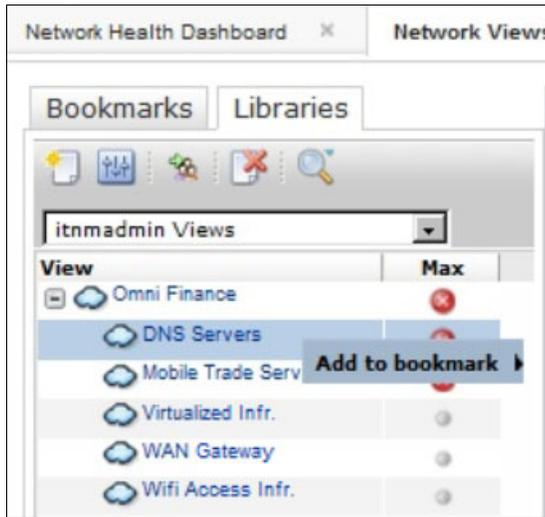

Figure 2-10 Adding Network Views to bookmarks for networks for Omnifinance
- c. Right-click the wanted network view and click **Add to Bookmark**. An example is shown in Figure 2-10.